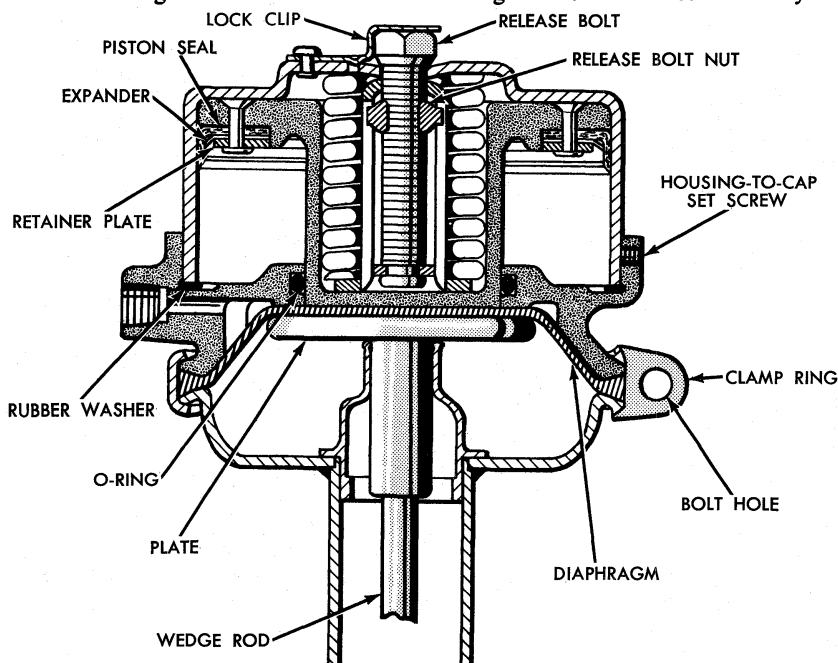

FIG. 8—Spring Manually Compressed for Removal and Repair of Fail-Safe Unit
2. Loosen the lock clip retaining screw and disengage the lock clip from the release bolt. Compress the actuating spring by turning the release bolt (Fig. 8) clockwise until